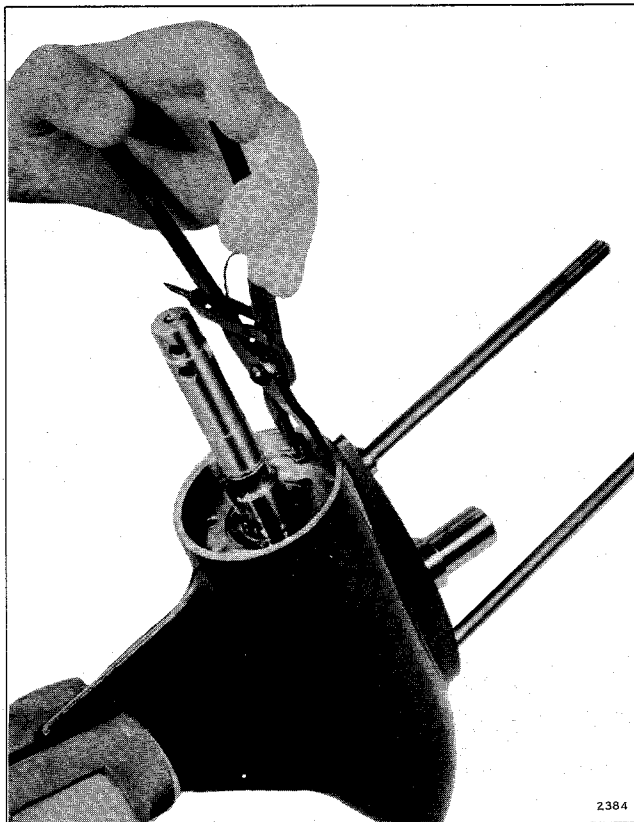

Figure 6-17. Removing Truarc Ring
h. Remove retaining ring with Truarc No. 5 pliers (Special Tool #303859). See Figure 6-17.